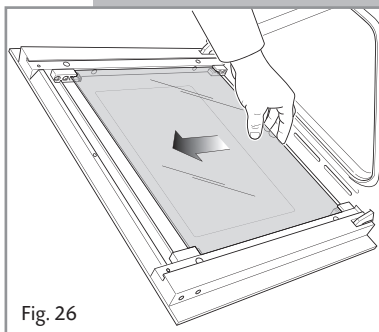

Fig. 26
- Gently unlock the middle pane of glass from the bottom clamps by moving it as in fig. 26.